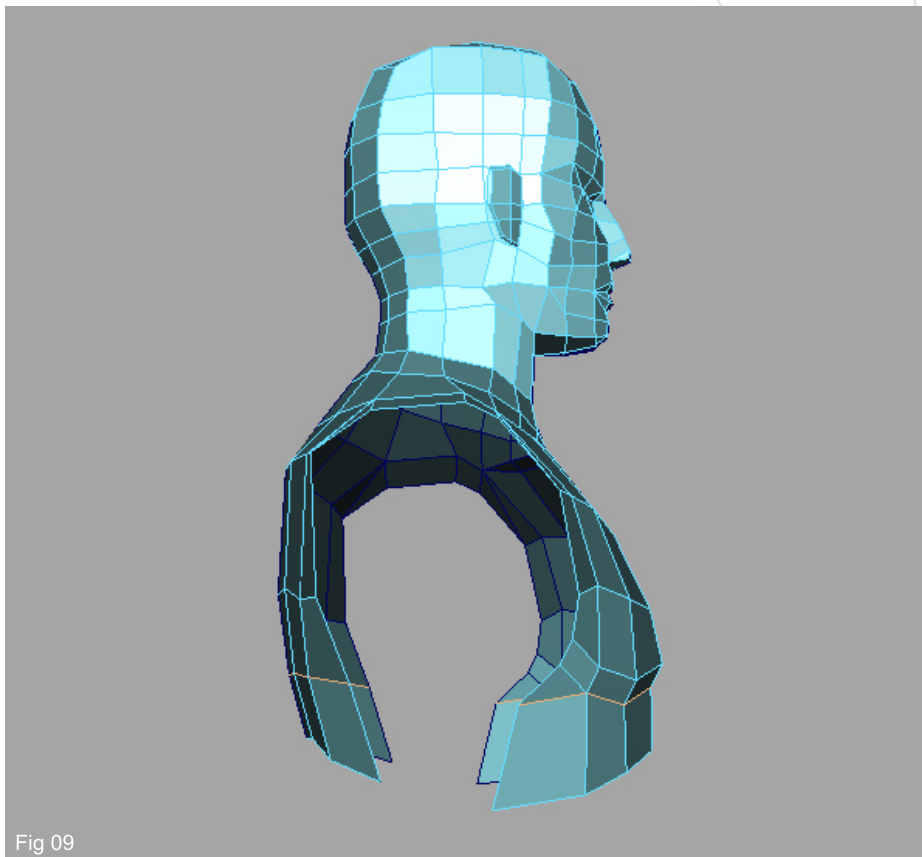

Fig 09
9. In "Fig 09" notice that the upper part of the arm starts to take shape. Before closing the torso, we are selecting the lower edges one more time and extrude them down.